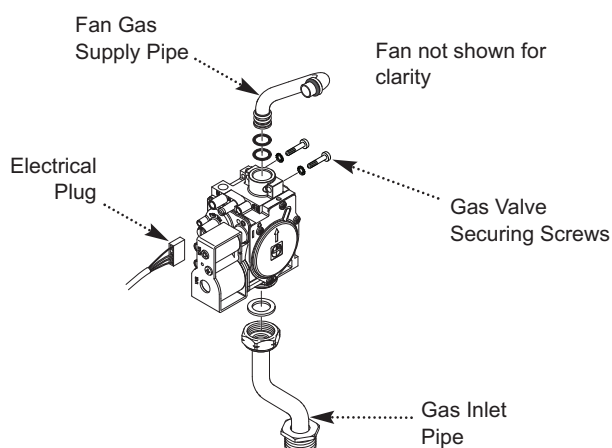

Fig. 49
8. Remove the 2 O-Rings from the gas feed pipe and replace with new ones supplied in the kit. Take care not to damage the O-Rings when refitting. Apply a small quantity of the silicone grease provided to aid reassembly of the gas valve (Fig. 49).